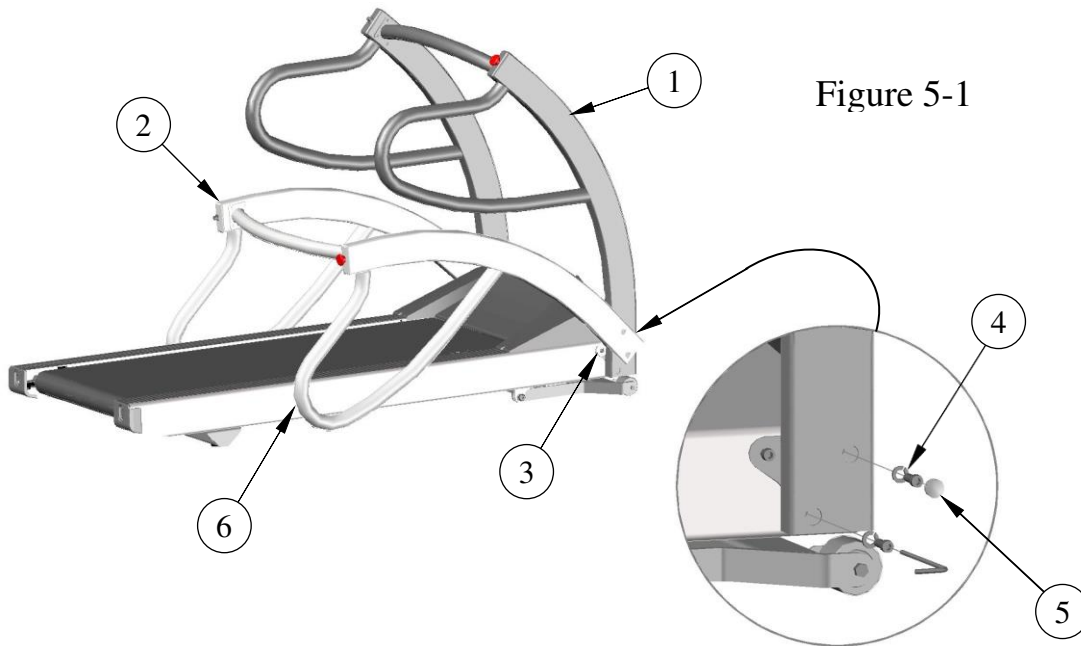

Figure 5-1
1. Swing the handrail assembly into the operating position and insert (2) 3/8-16 bolts and 3/8 lock washer each side and tighten securely.
2. Install (2) plastic caps each side for a finished look. Figure 5-1